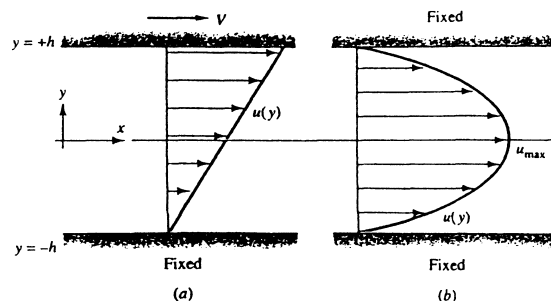

Fig. 4.16
**4.79** Study the combined effect of the two viscous flows in Fig. 4.16. That is, find  $u(y)$  when the upper plate moves at speed  $V$  and there is also a constant pressure gradient ( $dp/dx$ ). Is superposition possible? If so, explain why. Plot representative velocity profiles for (a) zero, (b) positive, and (c) negative pressure gradients for the same upper-wall speed  $V$ .